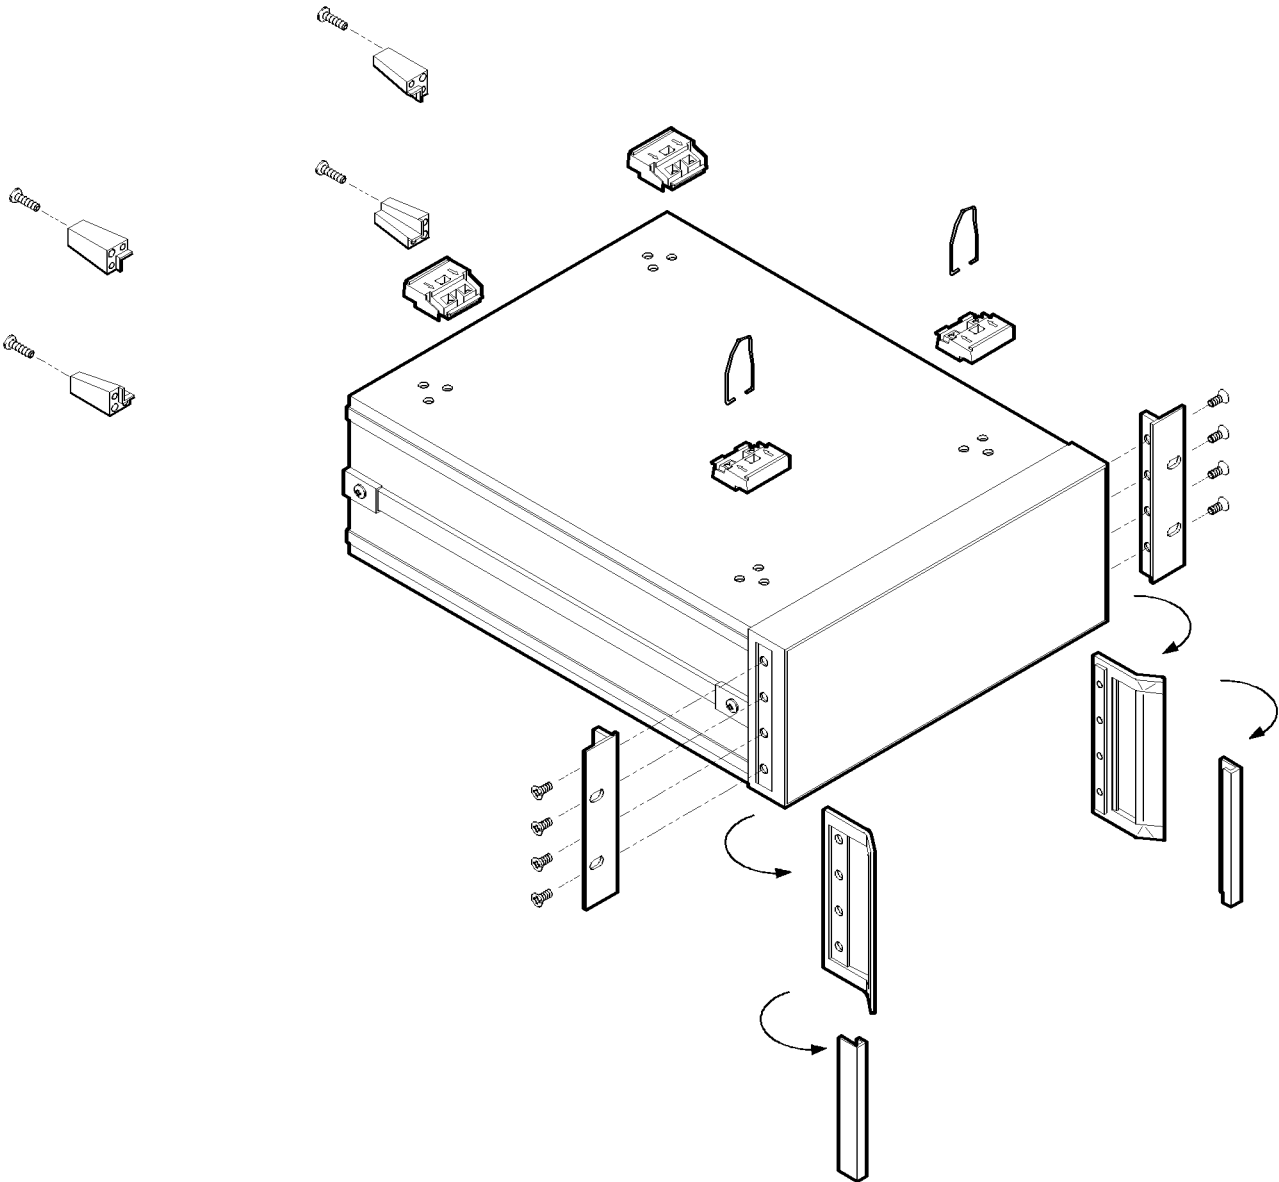

Figure 3-5. Rack Mount Flanges for Swept Signal Generators with Handles Removed
- 1. Refer to Figure 3-5. Remove handle trim strips.